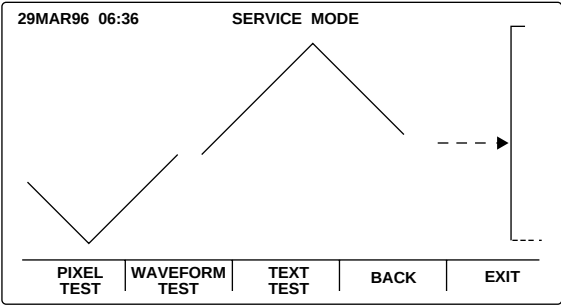

Figure 3-5: Waveform Test Display
9. Press softkey #2, “WAVEFORM TEST” and verify that a waveform similar to the one illustrated in Figure 3-5 is displayed. A wiper bar with a sweep speed of 25 mm/sec is displayed.